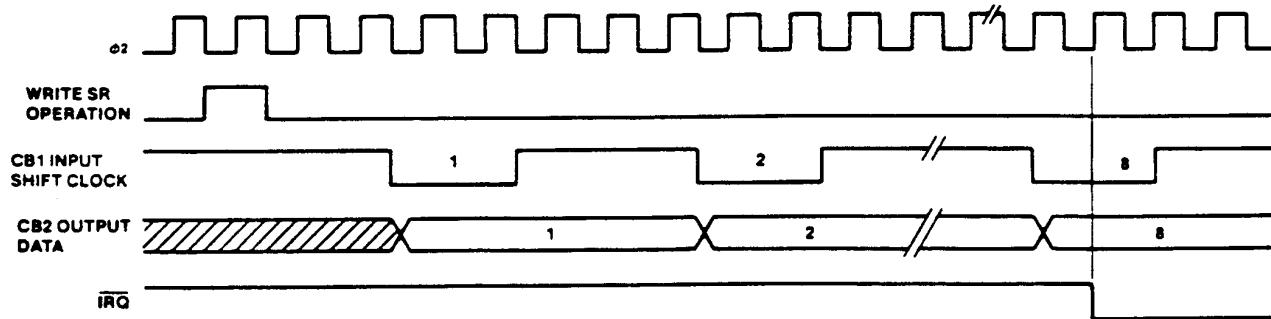

Figure 36. Shift Out—External CB1 Clock Control
**Shift Out—External CB1 Clock Control (111)**—In this mode, shifting is controlled by external pulses applied to the CB1 line. The Shift Register Counter sets the Interrupt Flag for each eight-pulse count, but does not disable the shifting function. Each time the microprocessor reads or writes the Shift Register, the Interrupt Flag is reset and the counter is initialized to begin counting the next eight pulses on the CB1 line. After eight shift pulses, the Interrupt Flag is set. The microprocessor can then load the Shift Register with the next eight bits of data. Refer to Figure 36.